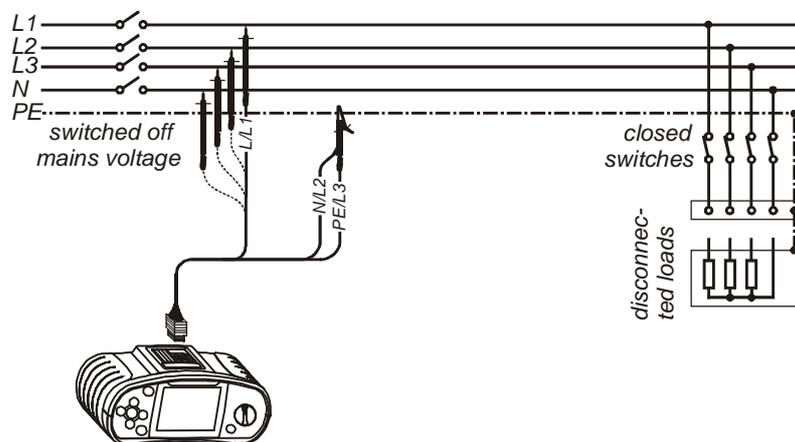

Figure 5.2: Connection of universal test cable
**Step 3** Connect test cable to the item under test. Follow the connection diagram shown in figure 5.2 to perform insulation resistance measurement.